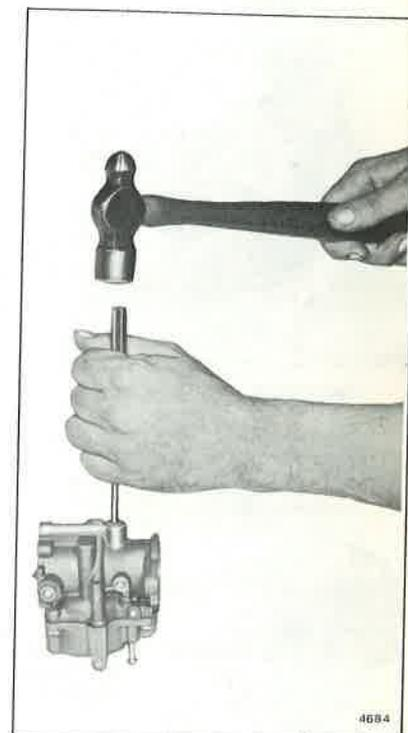

Figure 3-13. Re-seating or Installing Core Plug
a. If necessary, remove core plug to clean out slow speed orifice holes. See Figure 3-1. If leakage occurs at a core plug area, a smart tap with a hammer and flat end punch in the center of the core plug will normally correct this condition. See Figure 3-13.